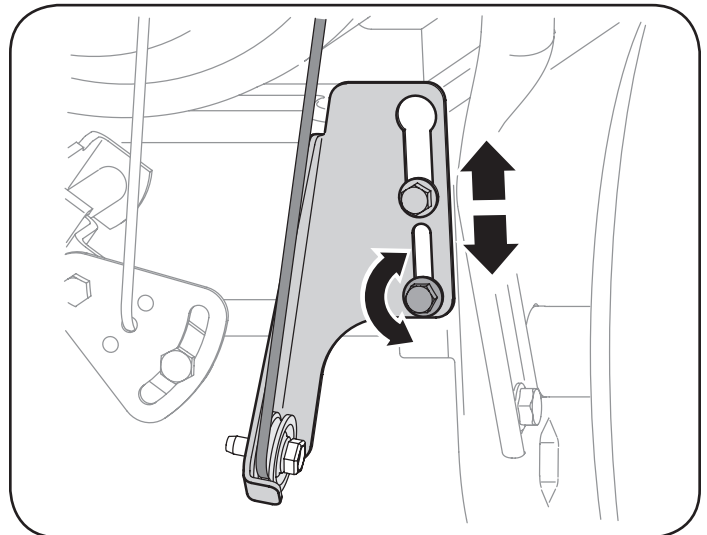

Figure 25
- b. Loosen the lower hex bolt on the drive cable bracket. See Figure 25.